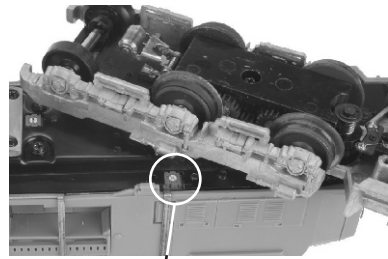

Figure 3. Smoke Unit Volume Control
3. If you choose not to prime the unit with fluid, turn the smoke unit switch located under the engine to the OFF position (see Fig. 3 on pg. 10). Running the engine without a primed smoke unit may cause damage. See the “ProtoSmoke Unit Operation” section of this book for more information on smoke unit maintenance.
If you choose not to add the fluid (or have already added the fluid but choose to run smoke-free), turn off the smoke unit volume control located under the engine (see Fig. 3). Failure either to add fluid to the unit or to turn it off may damage the smoke unit heating element and/or wicking material.